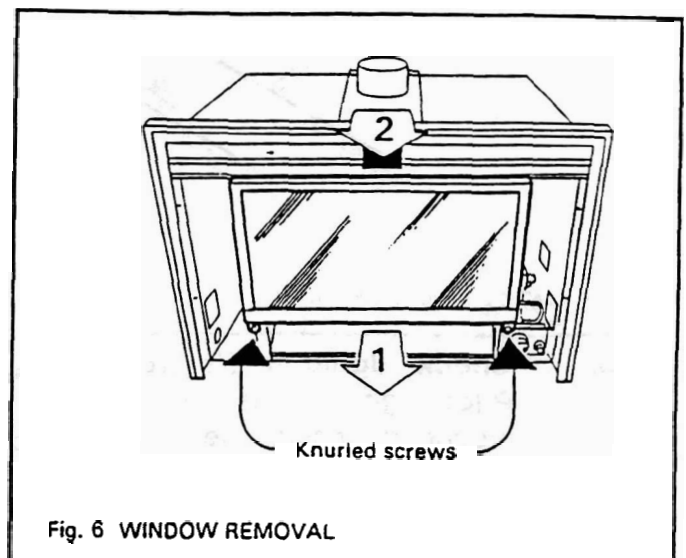

Fig. 6 WINDOW REMOVAL
- 2.1.3. **Remove Window and Logs** (see Fig. 6)